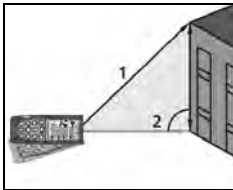

Fig. 9: Indirect 2-point measurement
3. Position the instrument in the highest point (1) of measurement (see Fig. 9) and press the  key or the side **MEAS** key to measure. The result appears on the first partial display. The symbol “” appears on the display with side “2” flashing
4. Position the instrument as horizontally as possible (2) (see Fig. 9) and press the  key or the side **MEAS** key to measure. The result appears on the second partial display
5. The final value of the result (obtained as  $\sqrt{(1)^2 - (2)^2}$ ) is shown on the resulting display